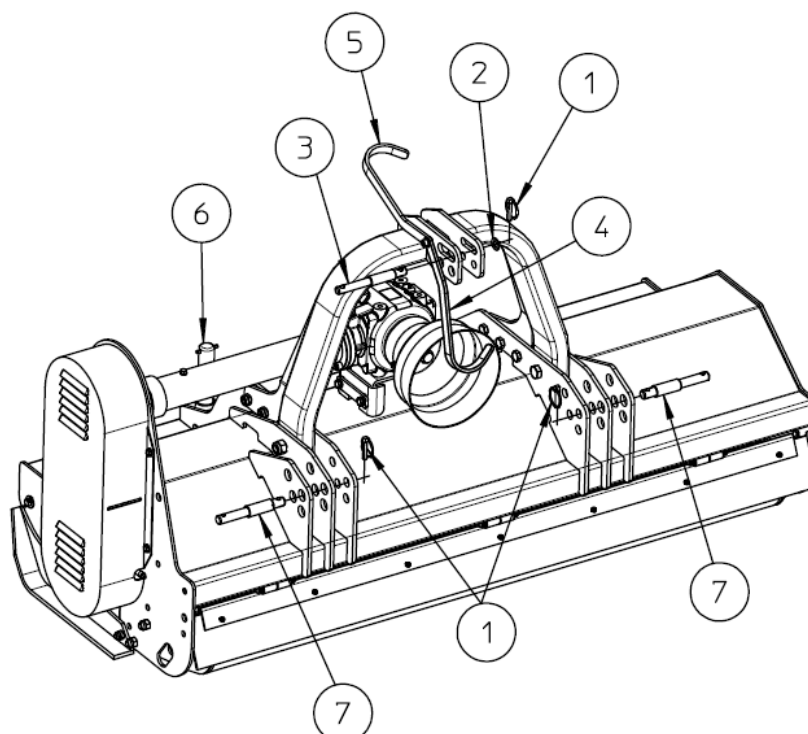

Figure 13
PERICOLO	1. Remove the safety pins (1), slide out the washer (2), the crank pin (3) and the pins (7) (figure 13); 2. Move the tractor in reverse gear to approach the rear lifting bars to the mulcher hitches (figure 12):  Figure 12
4. Insert the pins (7) and the relative safety pins (1) (figure 13);
5. Connect the machine third point (tie-rod) to the tractor, insert the supplied jack (3), washer (2) and relative safety pin (1); adjust the length of the third point in a way that the jack is about at the centre of the slot;
6. Lift the mulcher until the machine and tractor power take-off sockets are at the same height and regulate the tensioner, taking the mulcher to the horizontal position; lift the support feet (6) (figure 13);
ATTENZIONE	10. Turn the cardan support rod from position (4) to position (5) (figure 13); Check that the safety pins are well inserted and efficient. Make sure the restraining devices have been inserted inside the connection jack.